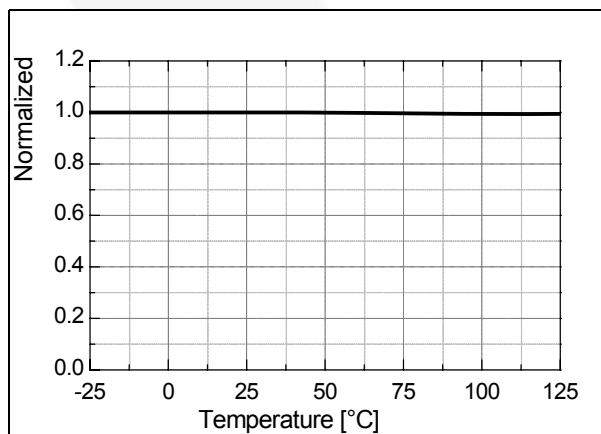

Figure 29. Sync High Threshold Voltage 2 ( $V_{SH2}$ ) vs.  $T_A$
**4.1 Overload Protection (OLP):** Overload is defined as the load current exceeding its normal level due to an unexpected abnormal event. In this situation, the protection circuit should trigger to protect the SMPS. However, even when the SMPS is in the normal operation, the overload protection circuit can be triggered during the load transition. To avoid this undesired operation, the overload protection circuit is designed to trigger only after a specified time to determine whether it is a transient situation or a true overload situation. Because of the pulse-by-pulse current limit capability, the maximum peak current through the SenseFET is limited, and therefore the maximum input power is restricted with a given input voltage. If the output consumes more than this maximum power, the output voltage ( $V_O$ ) decreases below the set voltage. This reduces the current through the opto-coupler LED, which also reduces the opto-coupler transistor current, thus increasing the feedback voltage ( $V_{FB}$ ). If  $V_{FB}$  exceeds 2.5V, D1 is blocked and the 5 $\mu$ A current source starts to charge CB slowly up to  $V_{CC}$ . In this condition,  $V_{FB}$  continues increasing until it reaches 6V, when the switching operation is terminated, as shown in Figure 29. The delay time for shutdown is the time required to charge  $C_{FB}$  from 2.5V to 6V with 5 $\mu$ A. A 20 ~ 50ms delay time is typical for most applications.